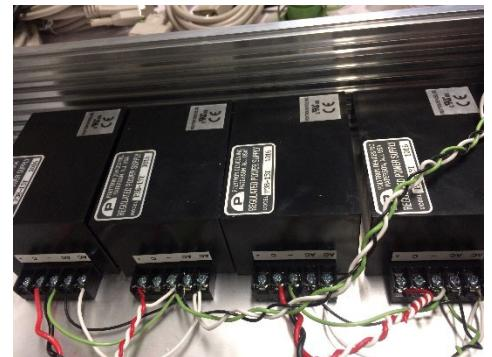

Figure 101 Power supply connection photo
- Connect the wires to the screw terminals on the power supplies as shown in Figure 102 and Figure 101.
- Connect bare wire ends of the sbRIO power cables and the RIO breakout board power cables to power supplies as shown in Figure 102 and Figure 101.